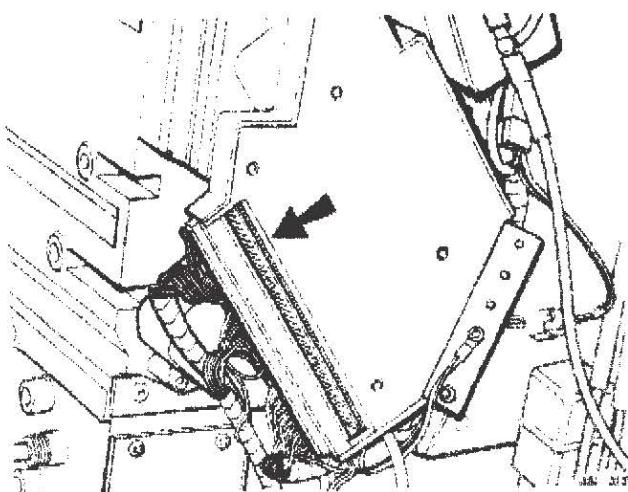

FIG 4
- * Connect the switch harness "Takbro" multiplug to the air conditioning electronic control unit, utilising the 'AC2' diagnostic socket, see Fig 4: